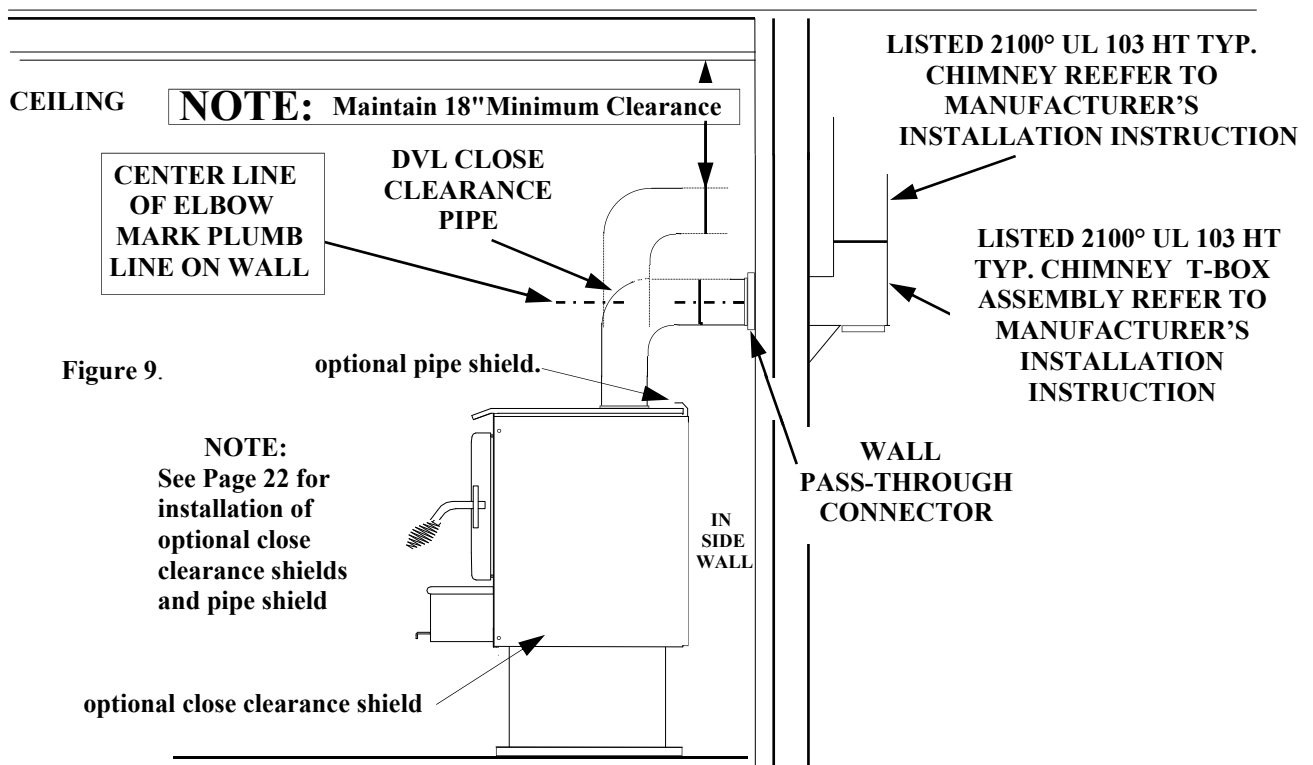

Figure 9.
(See Page 13, Figure 9).
3. Measure up so there will be at least 1/4" rise per foot of horizontal connector pipe, maintaining clearances to the ceiling as noted in (Page 13, Figure 9). This will give you the center of the hole for the chimney penetration.
5. Connect the DVL close clearance pipe to the tee-box per manufacturer’s instructions. DVL close clearance pipe is to be connected with (3) sheet metal screws or rivets to connector collar on heater.(See Page 13, Figure 9).